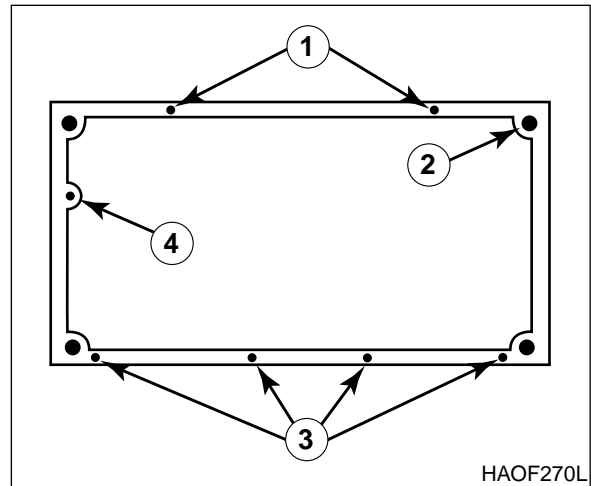

Figure 6
20. Remove four mounting nuts from four corners of cabin floor (2, Figure 6).
21. Remove four hex bolts (3, Figure 6) from door side of cabin floor.
22. Remove two hex bolts (1, Figure 6) from right side of cabin floor and one bolt (4) under front window of cab floor.